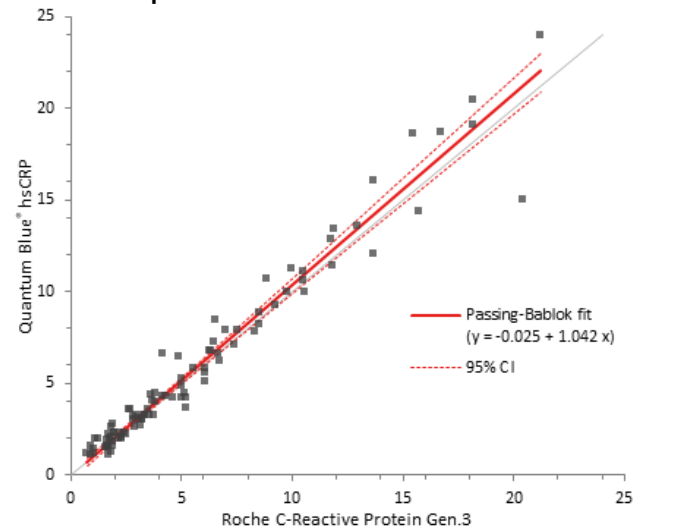

Figure 2
The method comparison study was performed according to the CLSI guideline EP09-A3. Ninety-five (95) samples were measured in triplicates with the Quantum Blue® hsCRP test, resulting in 285 values, and compared to the Roche C-Reactive Protein Gen.3 assay. Measurements were performed over six days using three different Quantum Blue® hsCRP test cassette lots. The results are summarized in figure 2.